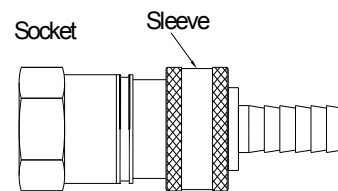

Fig. 33
3. Push plug until sleeve snaps forward (Fig. 33). (Gas will flow automatically. Failure to connect plug properly to socket will inhibit gas flow to the appliance.)